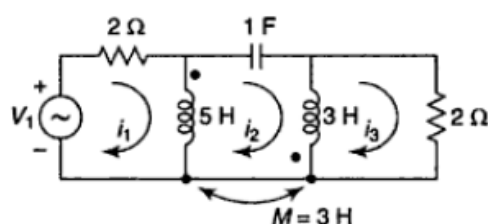

Fig. 14.20
14.33 Write three mesh equations for the circuit shown in Fig. 14.20.